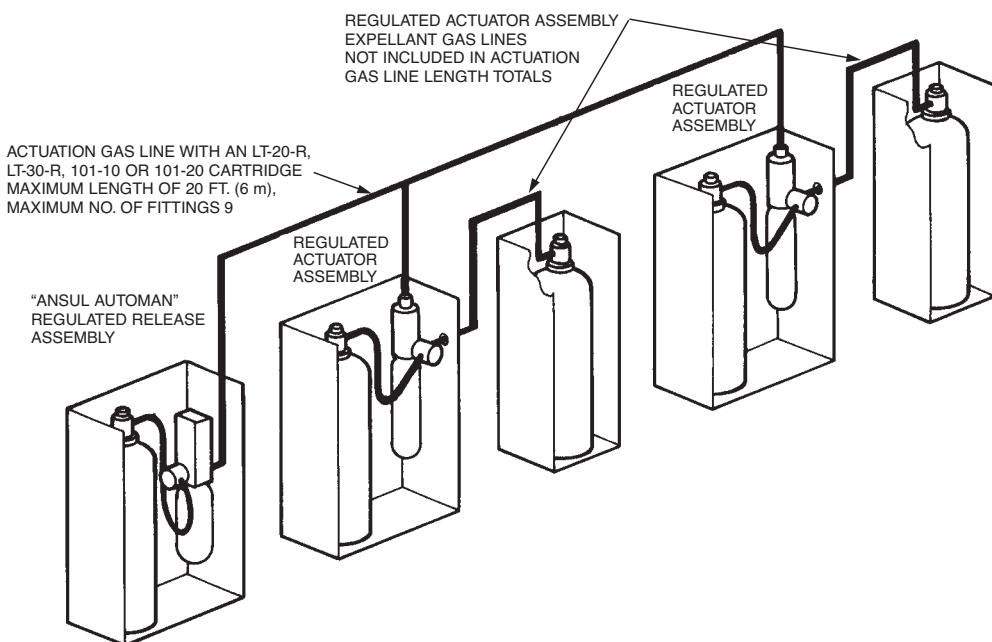

FIGURE 100
2. The actuation gas line piping is installed from the regulated release mechanism to each regulated actuator connected within the system. The total length of the actuation gas line from the regulated release assembly to the regulated actuator assembly(ies) **must not exceed** 20 ft (6 m) when using an LT-20-R, an LT-30-R nitrogen cartridge, or a 101-10 or a 101-20 carbon dioxide cartridge. See Figure 100.